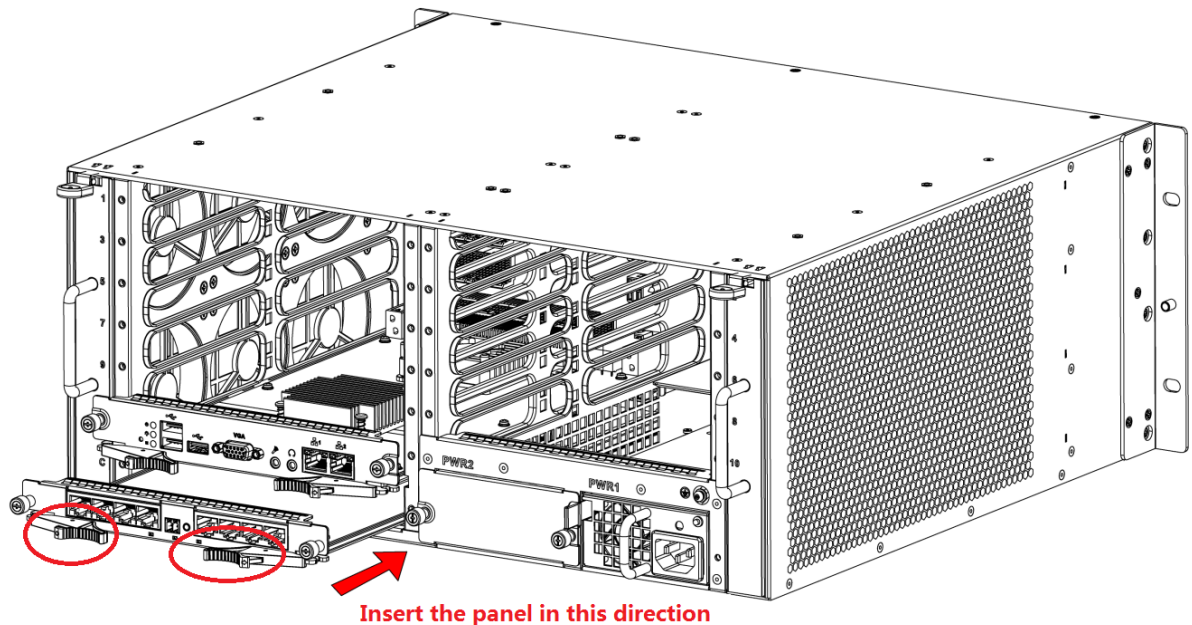

Figure 1-6
**Step 2** Insert main control panel and control panel into slots of the case according to Figure 1-6, and tighten screws.